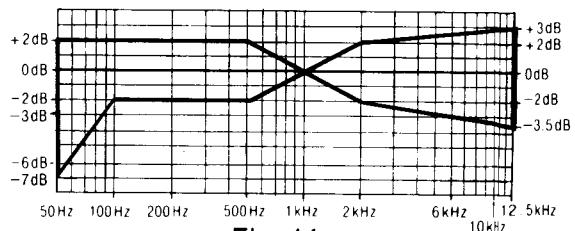
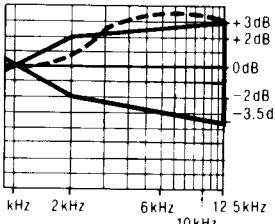
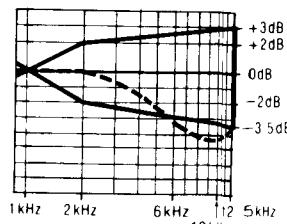

Fig. 14
Fig. 15
Fig. 16
6. Playback the signals recorded in step 5, and check if the frequency response curve is within the limits shown in the overall frequency response chart for normal tapes (fig. 14).
When the curve exceeds the overall specified frequency response chart (fig. 14) as shown in fig. 15.
When the curve falls below the overall specified frequency response chart (fig. 14) as shown in fig. 16.
- 2) Repeat steps 5 and 6 for confirmation (Proceed to steps 7, 8 and 9 if the curve is now within the charted specifications as shown fig. 14.)
- 3) If the curve still exceeds the specifications (fig. 14), increase bias current further and repeat steps 5 and 6.